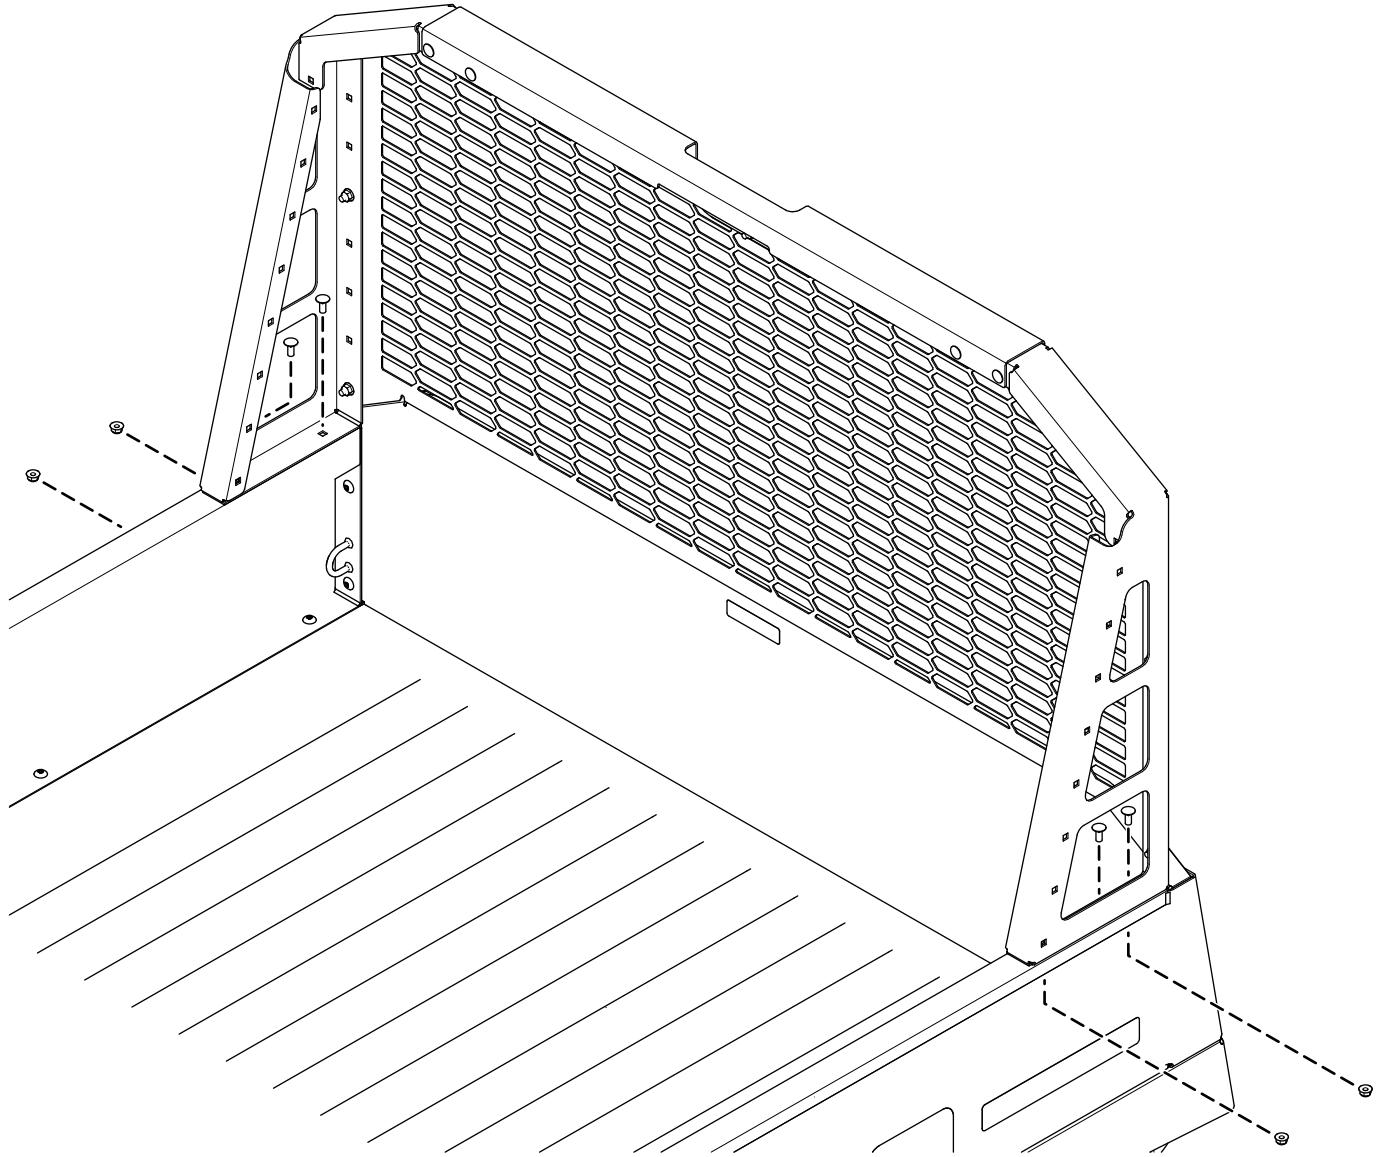
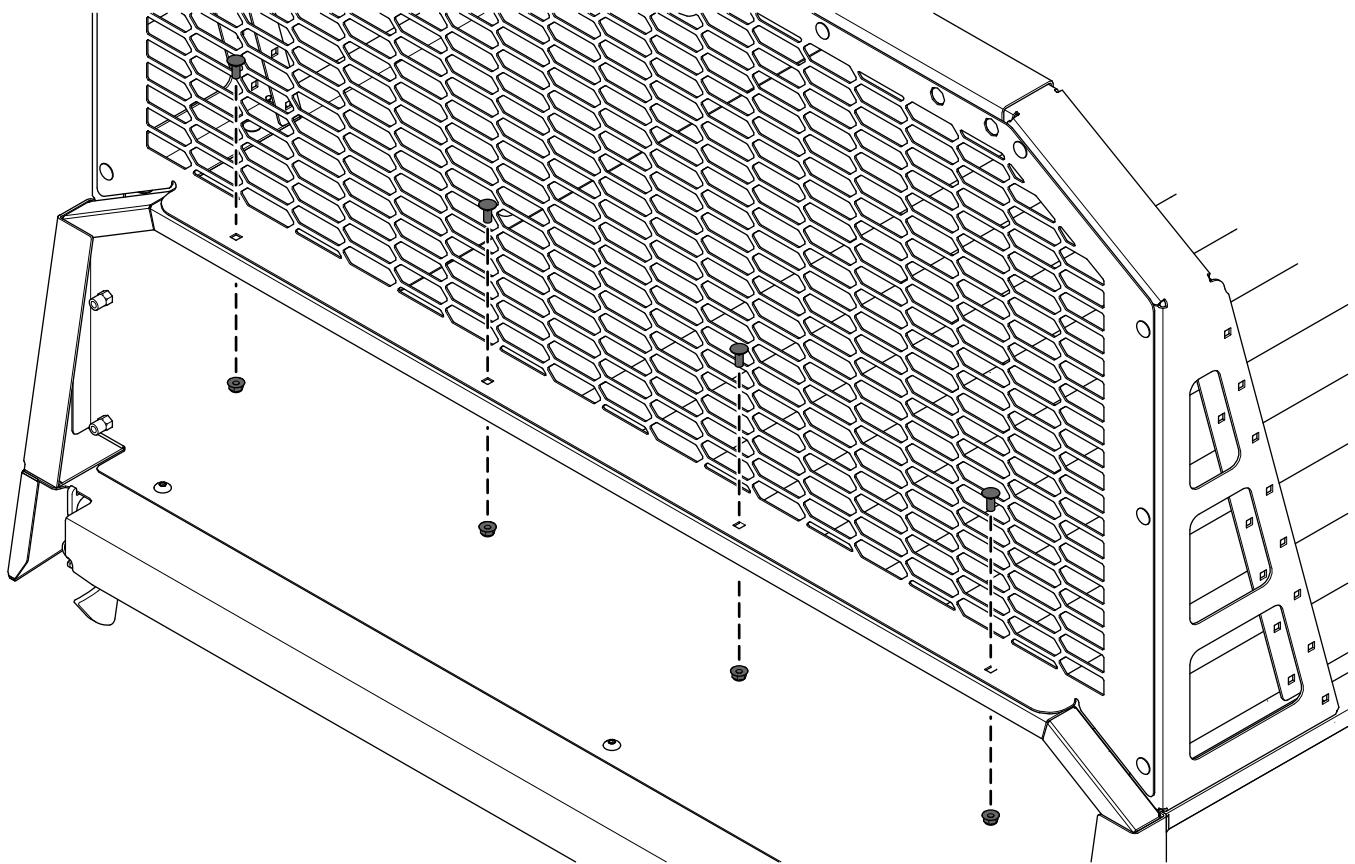

Figure 5
Figure 6
8. Place the rack assembly on the cargo bed and loosely secure the rack assembly to the cargo bed using 8 carriage bolts (5/16 x 3/4 inch) and 8 locknuts (5/16 inch) as shown in Figure 5 and Figure 6.